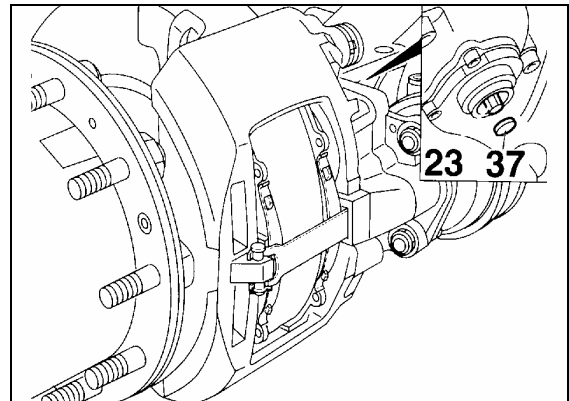

FIGURE 26: ADJUSTER PINION 12120
- Remove cap (37, Fig. 26).
- Using a box wrench (8 mm), turn the adjuster pinion (23, Fig. 26) counterclockwise about 2-3 clicks to increase running clearance. By operating the braking system
about 5-10 times (30 PSI or 2 bar), the wrench should turn clockwise in small increments if the adjuster is functioning correctly (Figs. 26 and 27).